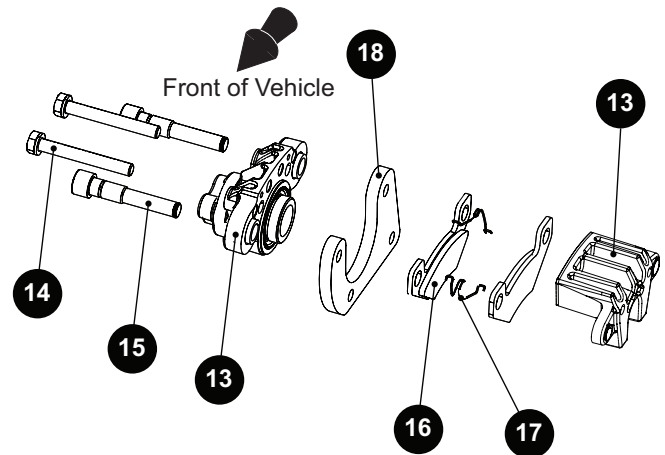

Fig. 3 Brake Caliper
3. Loosen the 2 socket head slider pins (15), but do not remove them.
4. Remove the two hex head screws (14) securing the caliper (13) to the mounting bracket (18) (Ref. Fig. 3).